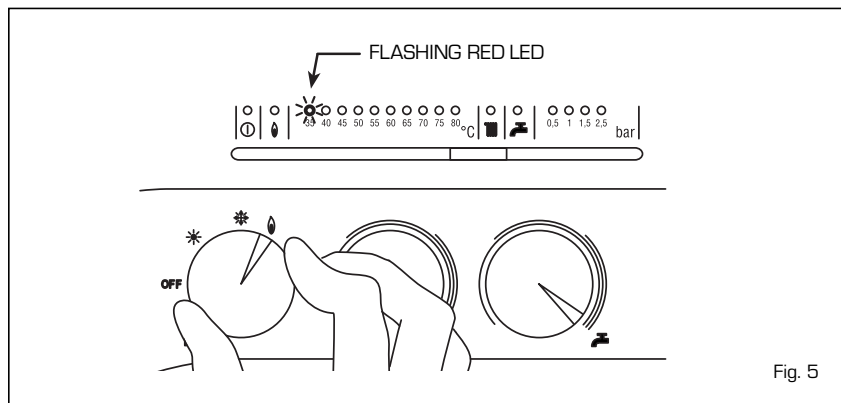

Fig. 5
- Safety/exhaust thermostat triggered (fig. 5)